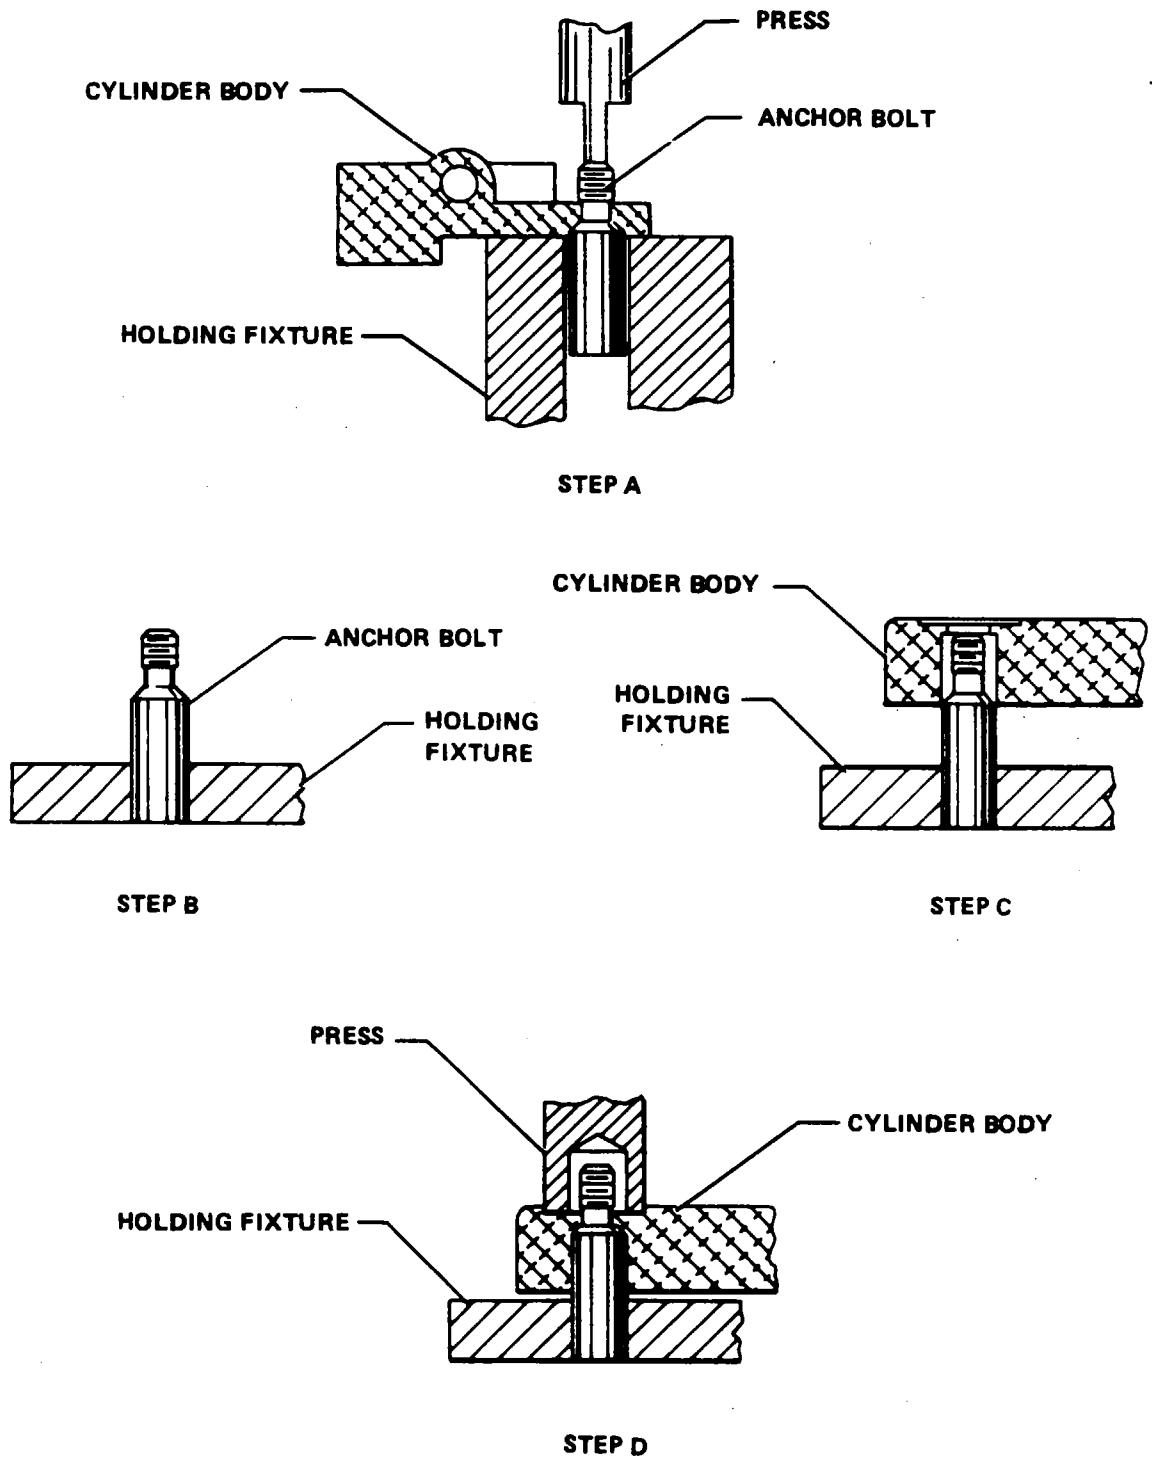

Figure 32-18. Removal and Installation of Anchor Bolts
- A. Position cylinder assembly on a holding fixture. (Refer to Figure 32-18, Step A.)
- A. Support anchor bolt in a holding fixture. (Refer to Figure 32-18, Step B.)
- B. Align cylinder body over anchor bolt. (Refer to Figure 32-18, Step C.)
- C. Using a suitable arbor press, apply pressure on the spot face directly over the anchor bolt. (Refer to Figure 32-18, Step D.)